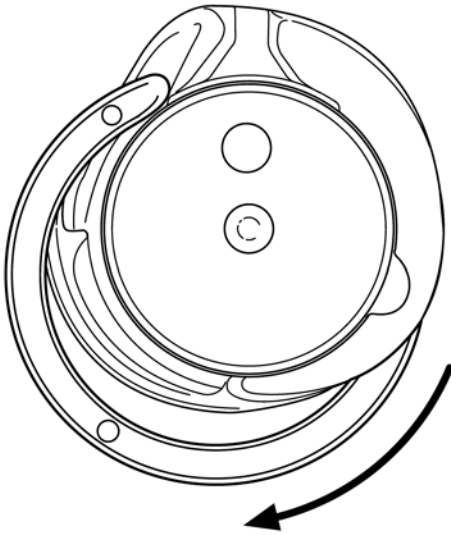

Fig. 71
- Turn the sewing hook gib to the left or to the right out of the bobbin case base (fig. 71).